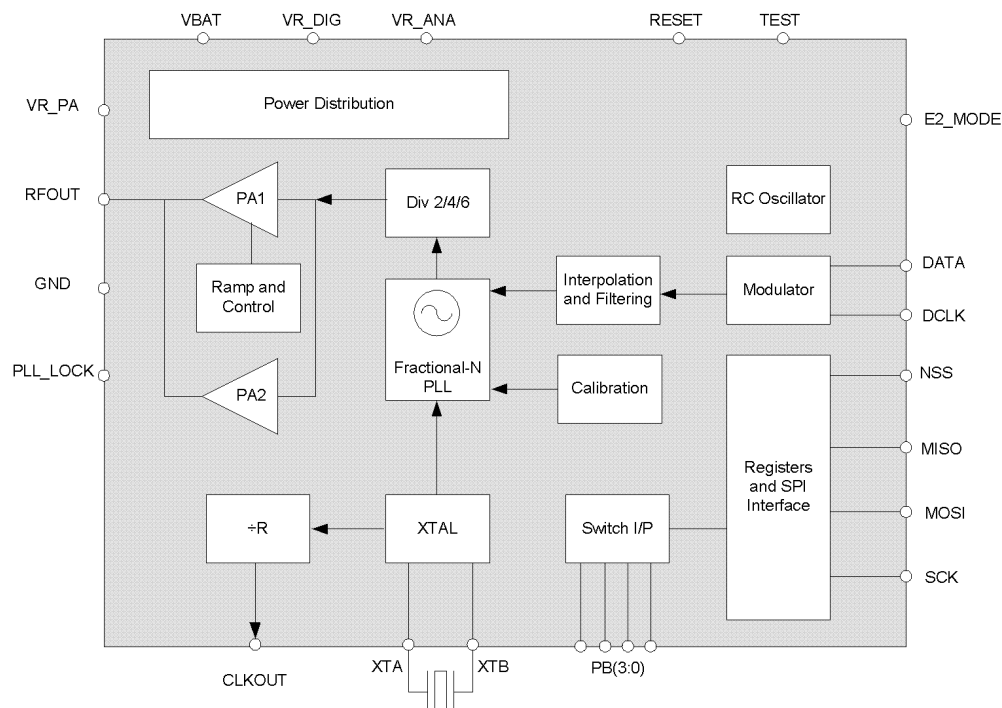

Figure 1. SX1230 Simplified Block Diagram
The general architecture of the SX1230 is shown in Figure 1. The frequency synthesizer generating the LO frequency is a third-order fractional-N sigma-delta PLL. The PLL is capable of fast auto-calibration and offers fast switching and settling times. For frequency modulation ((G)FSK and (G)MSK), the modulation is performed within the PLL bandwidth. Optional pre-filtering of the bit stream may also be enabled to reduce the power delivered to adjacent channels.